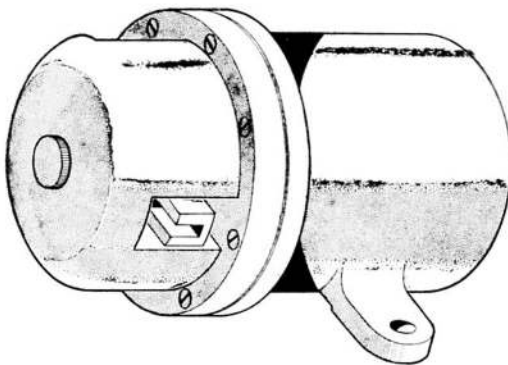
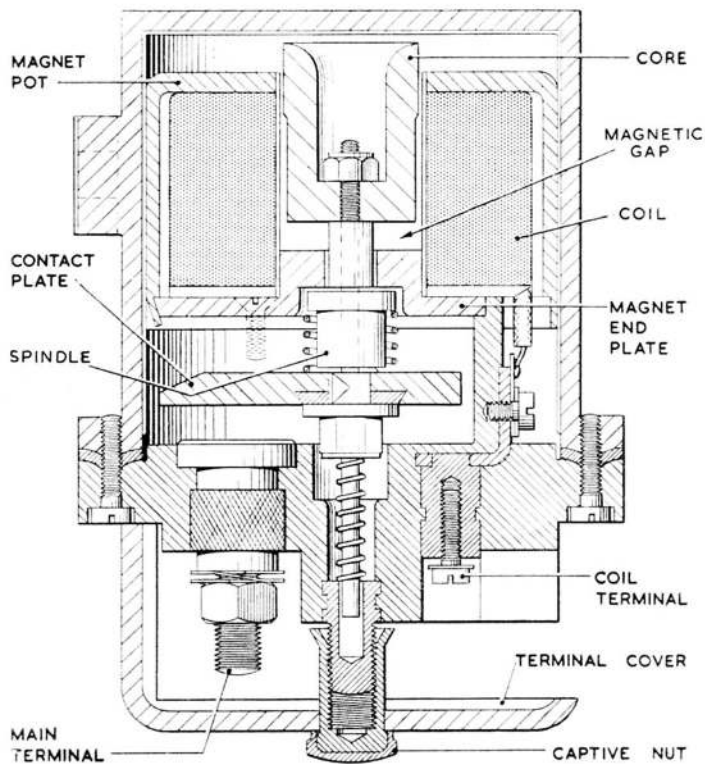

Fig. 1. Magnetic relay switch, Type T2
Fig. 2. Sectional view of switch
2. The relay switch (*fig. 1*) is a single-pole, double break switch, operated by an electro-magnet. The closing of a control switch energizes the coil and attracts the core until it abuts the magnet end plate (*fig. 2*). The core is carried on a central spindle which moves downwards against spring tension. Also mounted on the spindle is a copper contact plate; when the relay is energized, this plate bridges the main terminals and completes the circuit to the load.